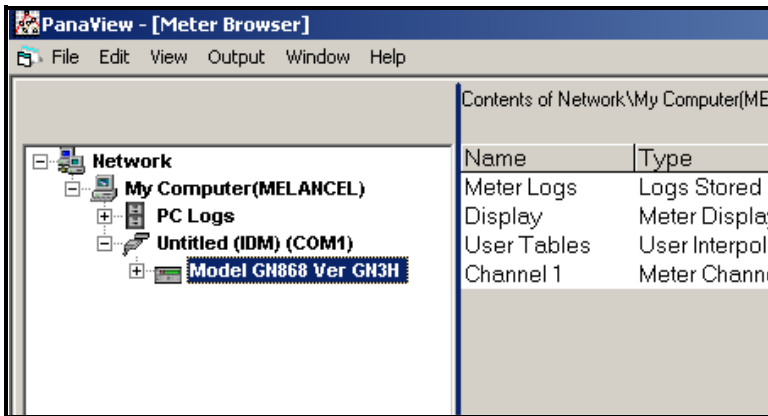

Figure 49: The Meter Branch
2. Fully expand the *network tree* and highlight the chosen meter (see Figure 49).